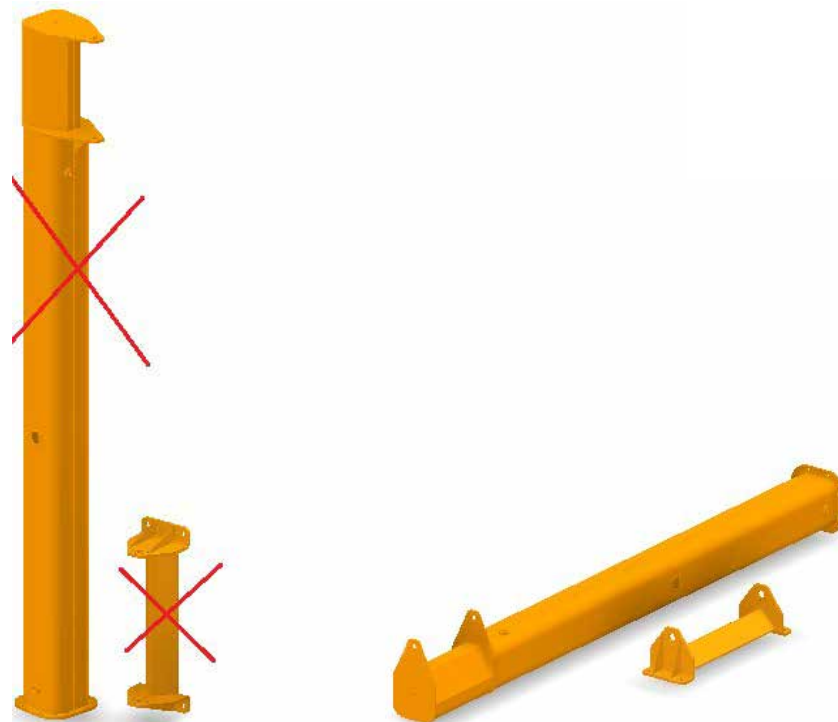

fig.14
- ▶ All of the parts or components must be placed or fixed stably in all phases of the movement, transport and storage phases and must not be flipped over or placed vertically or on their sides (fig. 14).